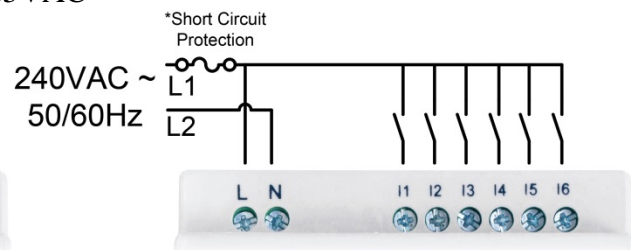

Figure 4
240VAC line 1 connects to (L) terminal and input terminal (refer to Fig.4) on the SG2.